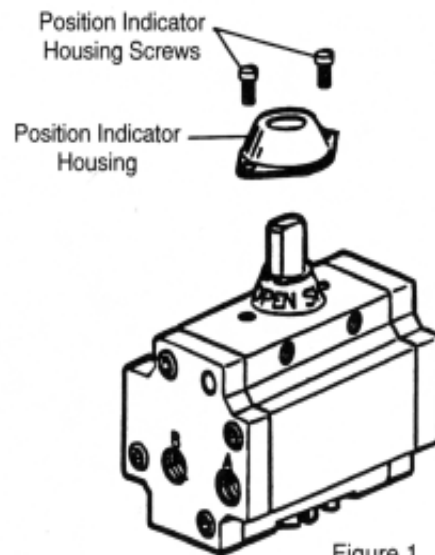

Figure 1
1. Remove the two position indicator housing screws, which secure the position indicator housing, from the top of the actuator to which the switch is to be mounted. Remove the position indicator housing. Figure 1.